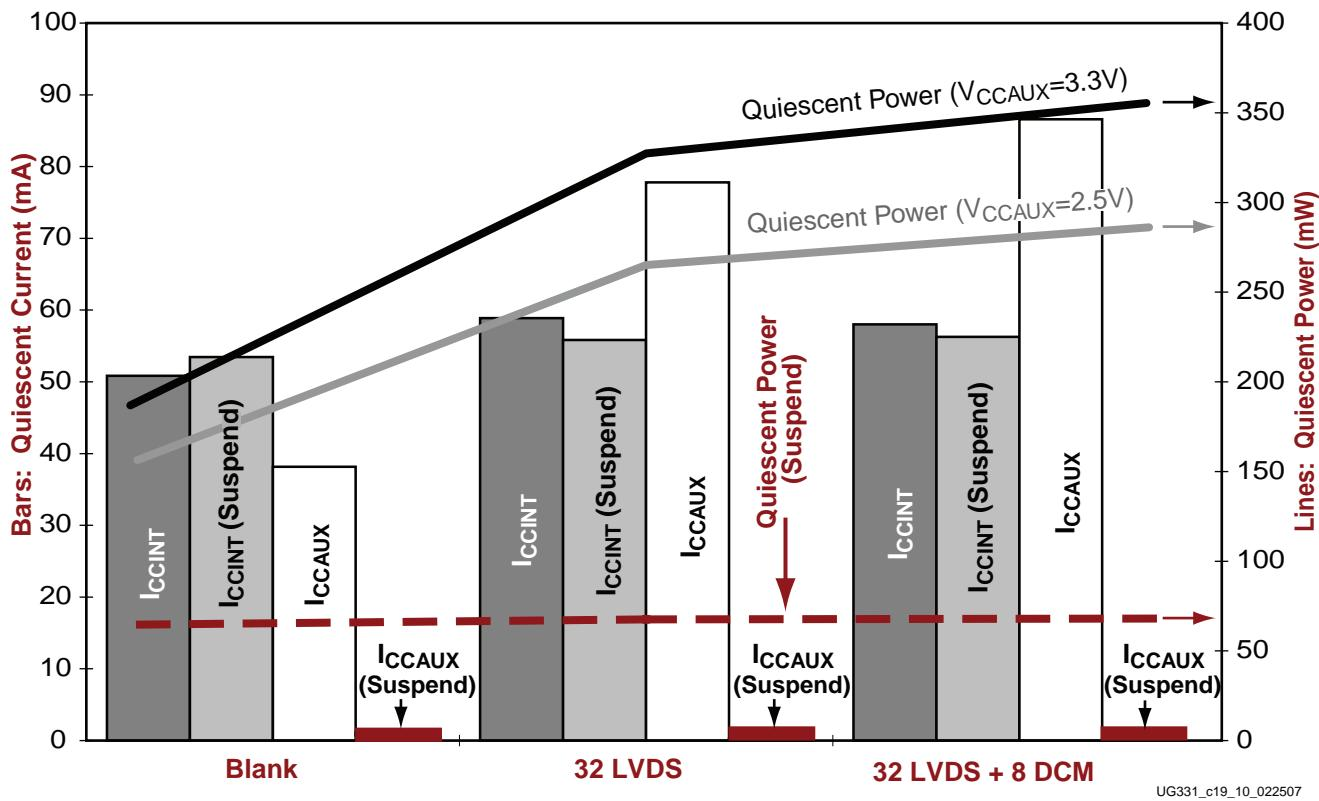

Figure 19-1: Effects of Suspend Mode on Example Designs Measured on Typical XC3S1400A
**Figure 19-1** graphically demonstrates the effect that Suspend mode has on some example, representative designs measured on a typical XC3S1400A FPGA. The results for other array sizes roughly scale with device density. The Suspend mode primarily affects current consumption on the  $V_{CCINT}$  and  $V_{CCAUX}$  power rails, there are also power savings for the  $V_{CCO}$  rail, depending on the how the user-programmable SUSPEND constraints are defined in the application (see “Define the I/O Behavior During Suspend Mode,” page 485).
**Figure 19-1** includes three example designs that highlight the Suspend mode behavior:
Figure 19-1 also shows four bars, indicating the typical quiescent current on the VCCINT and VCCAUX supplies under normal quiescent conditions with all clocks stopped and during Suspend mode. The associated current measurement, in mA, appears along the left-side vertical axis. Note that the current on VCCAUX during Suspend mode is near the base of the chart, highlighted in burgundy.
Furthermore, Figure 19-1 shows the quiescent power (current multiplied by the voltage applied to each power rail). The associated resulting power measurement, in mW, appears on the right-side vertical axis. On Spartan-3A/3A DSP FPGAs, VCCAUX can be either 2.5V or 3.3V nominally. By physics, the quiescent power is lower when VCCAUX = 2.5V. Note the significant reduction in total power consumption when the Spartan-3A FPGA is in Suspend mode. Although the total power savings is design dependent, Suspend mode typically reduces power consumption by 40% or more, with a minimum power savings of about 20%.
During Suspend mode, some of the circuitry powered by the VCCAUX supply is switched over to the VCCINT supply. Note the **Blank** design example in Figure 19-1. The current on the VCCINT supply actually *increases* while the current on the VCCAUX supply drops significantly! Fortunately, the total VCCINT current during Suspend remains below that used in an active FPGA application. Furthermore, despite the increased VCCINT current, the overall system power is reduced because current is being switched from the 2.5V or 3.3V VCCAUX supply to the 1.2V VCCINT supply.